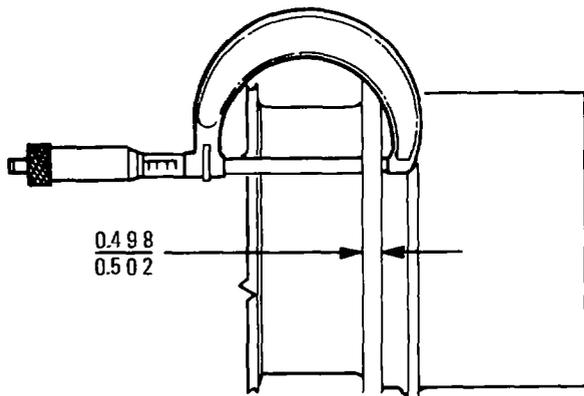

Figure 30 — Measuring Crankshaft Thrust Flange
- au. Measure the crankshaft thrust flange thickness (see Fig. 30), using a suitable micrometer the standard thickness is 12.65-12.75 mm (0.498-0.502 in.), then measure the distance from the flywheel mounting surface to the front thrust surface of the number seven main bearing journal. Where the distance is not 131.06-130.81 mm (5.160-5.150 in.) or the thrust flange is out of specification the crankshaft must be ground to accommodate undersize thrust bearings.